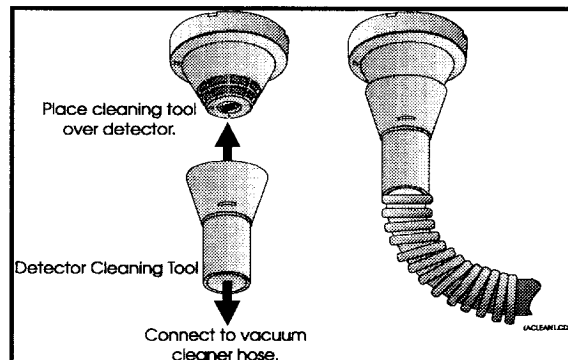

Figure 1 - Detector Cleaning Tool
3. With the Detector Cleaning Tool connected to the vacuum, place the tool over the detector head for approx. 1 minute while rotating back and forth. See Figure 1.